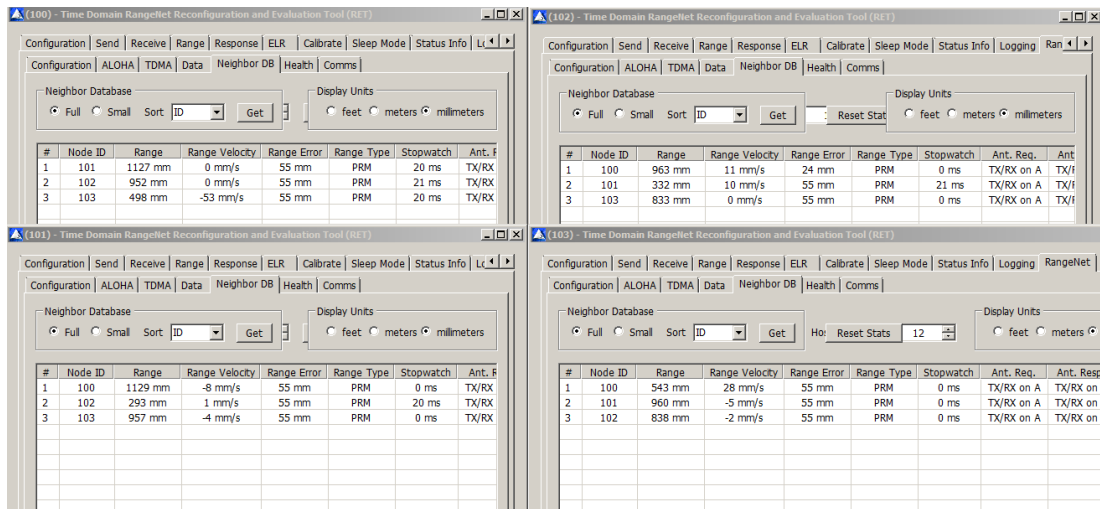

Fig. 17: Example TDMA Network with four members
14. Then align the database screens such that you can observe all 4 data bases. It will likely look similar to **Figure 17**.